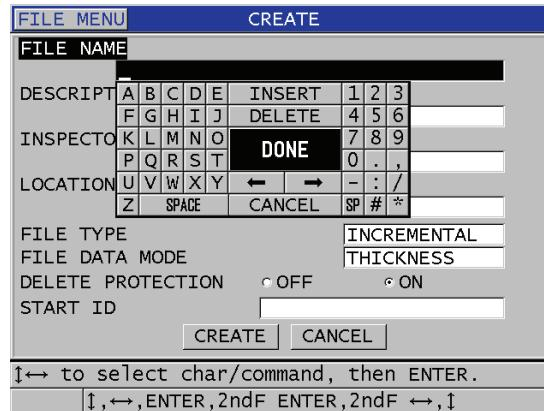

Figure 11-3 Example of the CREATE screen
3. In the **CREATE** screen (see Figure 11-3 on page 156):